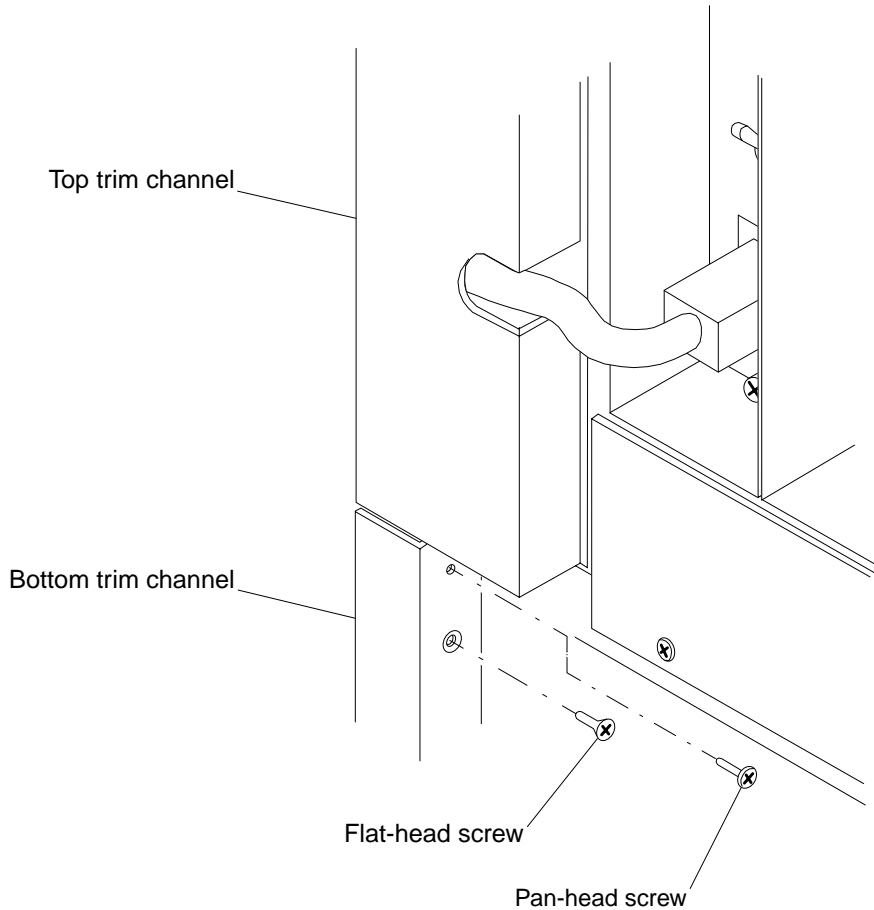

FIGURE 18 Bottom Trim Channel Installation
12. Install the bottom left trim channel in the front of the chassis (FIGURE 18).